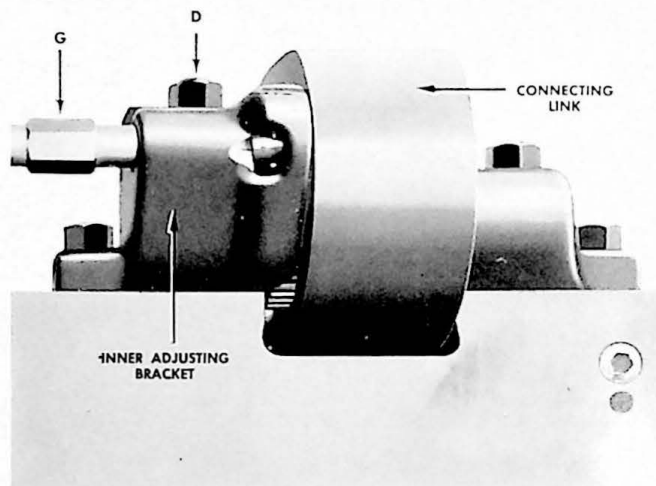

Fig. 14. Ram Adjustment
To adjust the ram, loosen nut "D", Fig. 14, at each end of the ram sufficiently to bring the teeth of the clamp block out of mesh with the teeth of the eccentric gear. Rotate the adjusting shaft "G" until the desired setting is reached, and one of the graduations is in line with the zero mark. Tighten the nut "D" at each end of the ram. **DO NOT ATTEMPT TO RUN THE SHEAR WITHOUT FIRST SECURELY TIGHTENING THE NUT "D" AT EACH END OF THE RAM.** Just to the outside of nut "D" each clamp has a through hole in which there is a small indicator pin. When the clamp block is properly seated the pin is flush with the top surface.
If the shear is operated with one clamp block loose, the pull of the connecting link will rotate the adjusting eccentric to its lowest position. This will cause twist the shaft "G" Fig. 14 or break teeth from the pinions. If this happens it will be necessary to retim the eccentrics as they will bind the ram and cause cutting of the ram clamps if the shear is operated in this condition. To retime the adjusting eccentrics proceed as follows:
2. Remove the screws holding the inner adjusting brackets and slide them toward the center of the shear. Leave nuts "D" Fig. 14 on loosely when using a hex key to remove the studs.